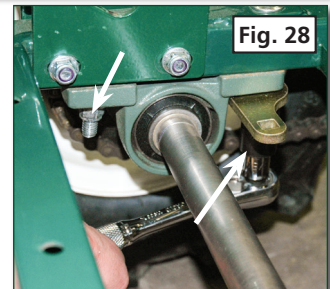

Fig. 28
5. Locate and loosen the two 1/2-13 nylon lock nuts under each pillow block bearing supporting the front axle. (Figure 28)